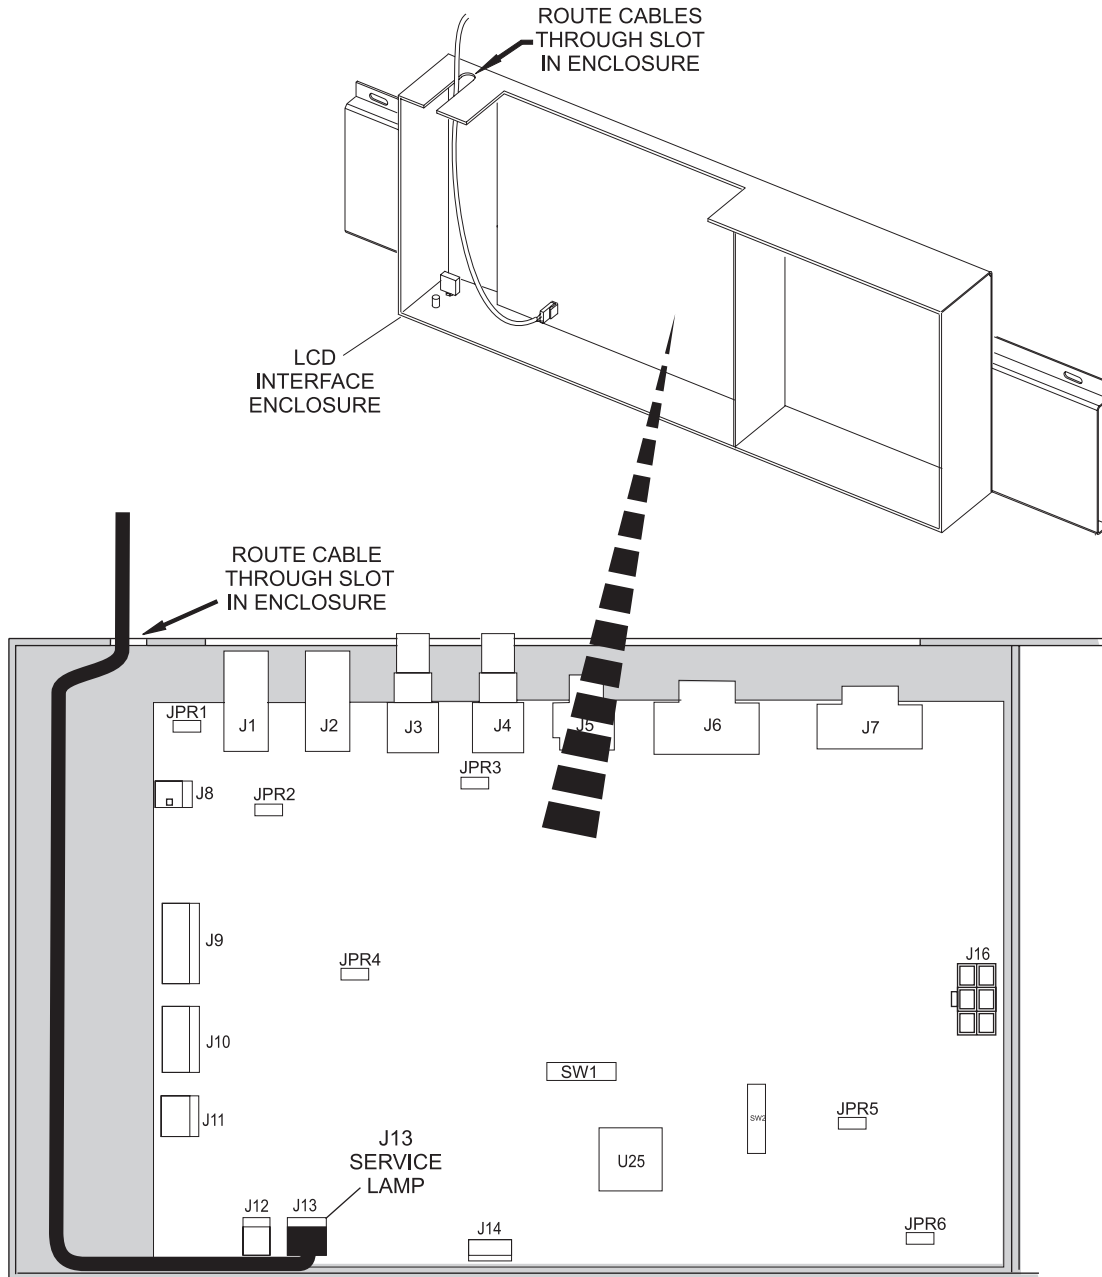

Figure 5
2. Route the extender cable to the enclosure and plug the cable into J13 on the AS-80/90 interface. Refer to Figure 5.